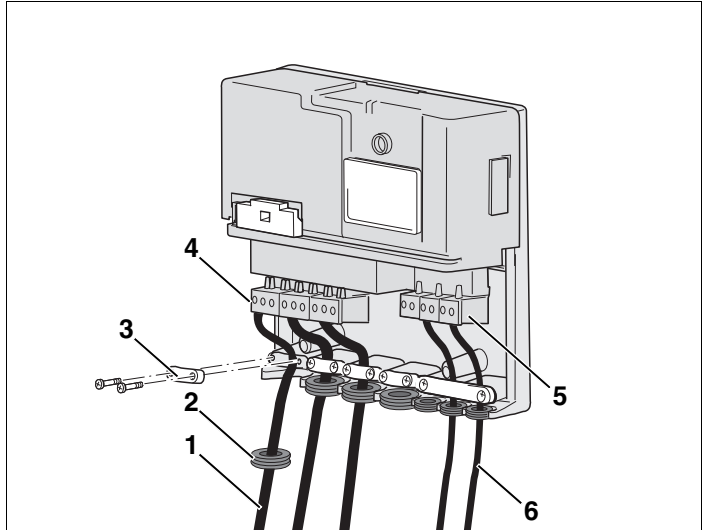

Fig. 11 *Electrical supply connections*
- Start by fitting the rubber sleeves (Fig. 11, **Item 2**) over the cable.
- Carefully connect the main power cable (Fig. 11, **Item 1**, the bus cable (Fig. 11, **Item 6** and other components to terminals (Fig. 11, **Item 4** and **5** on the function module in accordance with the connection diagram.
- Secure the strain relief devices (Fig. 11, **Item 3**) correctly using the clips provided.